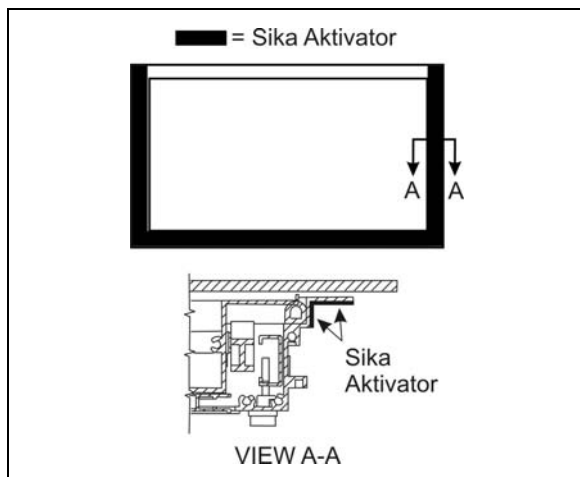

FIGURE 69 : AWNING WINDOW – Sika AKTIVATOR
5. Previously clean surface with anti-silicone and then apply Sika Aktivator as per FIGURE 69;